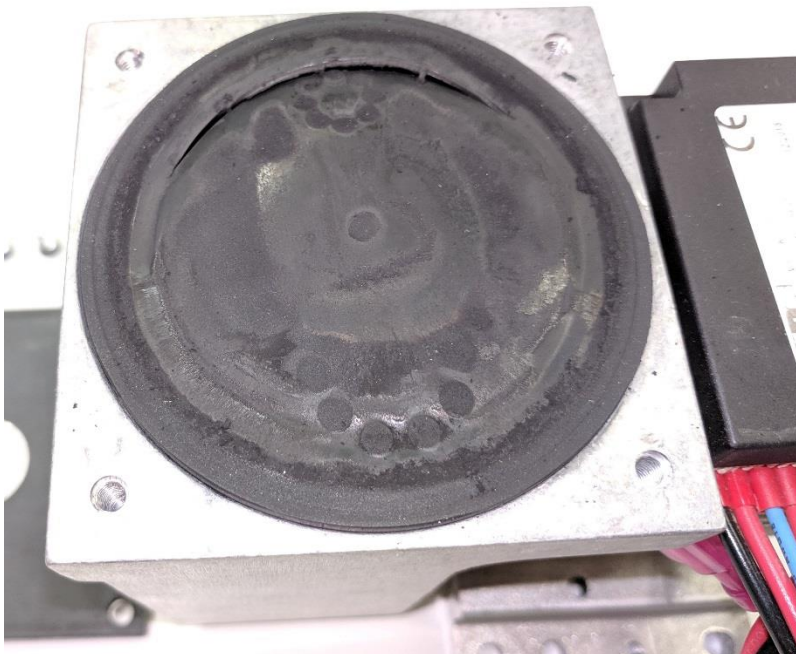

Figure 75: Damaged Diaphragm in Highest Position
4. Rotate the counterweight located within the side compartment by hand until the connecting rod moves the diaphragm into its highest position. At this point you may be able to see if the existing diaphragm is worn or damaged. See Figure 75.